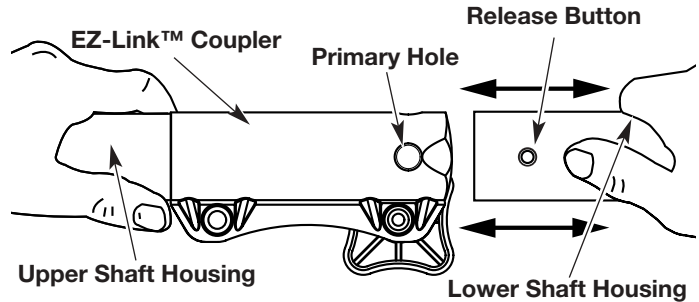

Fig. 7
2. While firmly holding the add-on, push it straight into the EZ-Link™ coupler (Fig. 7).